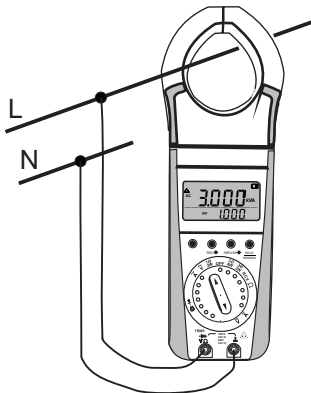

Fig 10.2 Connection diagram for 1P2W Power measurement
- ☛ Connect the voltage test leads as shown in fig 10.2.
- ☛ Connect the Clamp as shown in fig. 10.2.